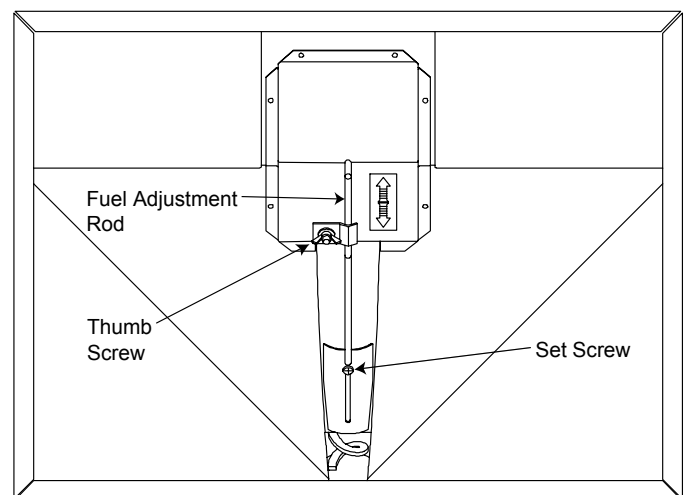

Figure 23.1
The feed adjustment control rod is factory set, and should be adequate for most fuels. The set screw is located at the bottom of the hopper and set loose at the factory so the fuel adjustment control rod will slide up and down by only loosening the thumb screw at the top. **See Figure 23.1.** Do not re-tighten bottom set screw.
1. Loosen the thumb screw. **Figure 23.1.**